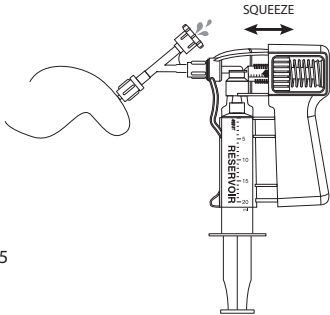
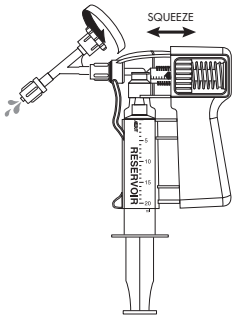

Figure 5
Figure 6
5. Attach the Squirt to the hemostasis valve as shown in Figure 5. Prime the hemostasis valve by placing a gloved thumb over the rotating adapter located on the hemostasis valve while activating the Squirt. This will force saline out of the back end cap of the hemostasis valve. Close the back end cap by twisting it in a clockwise direction. (See Figure 6) Continue to activate the Squirt to debubble the distal segment of the hemostasis valve.